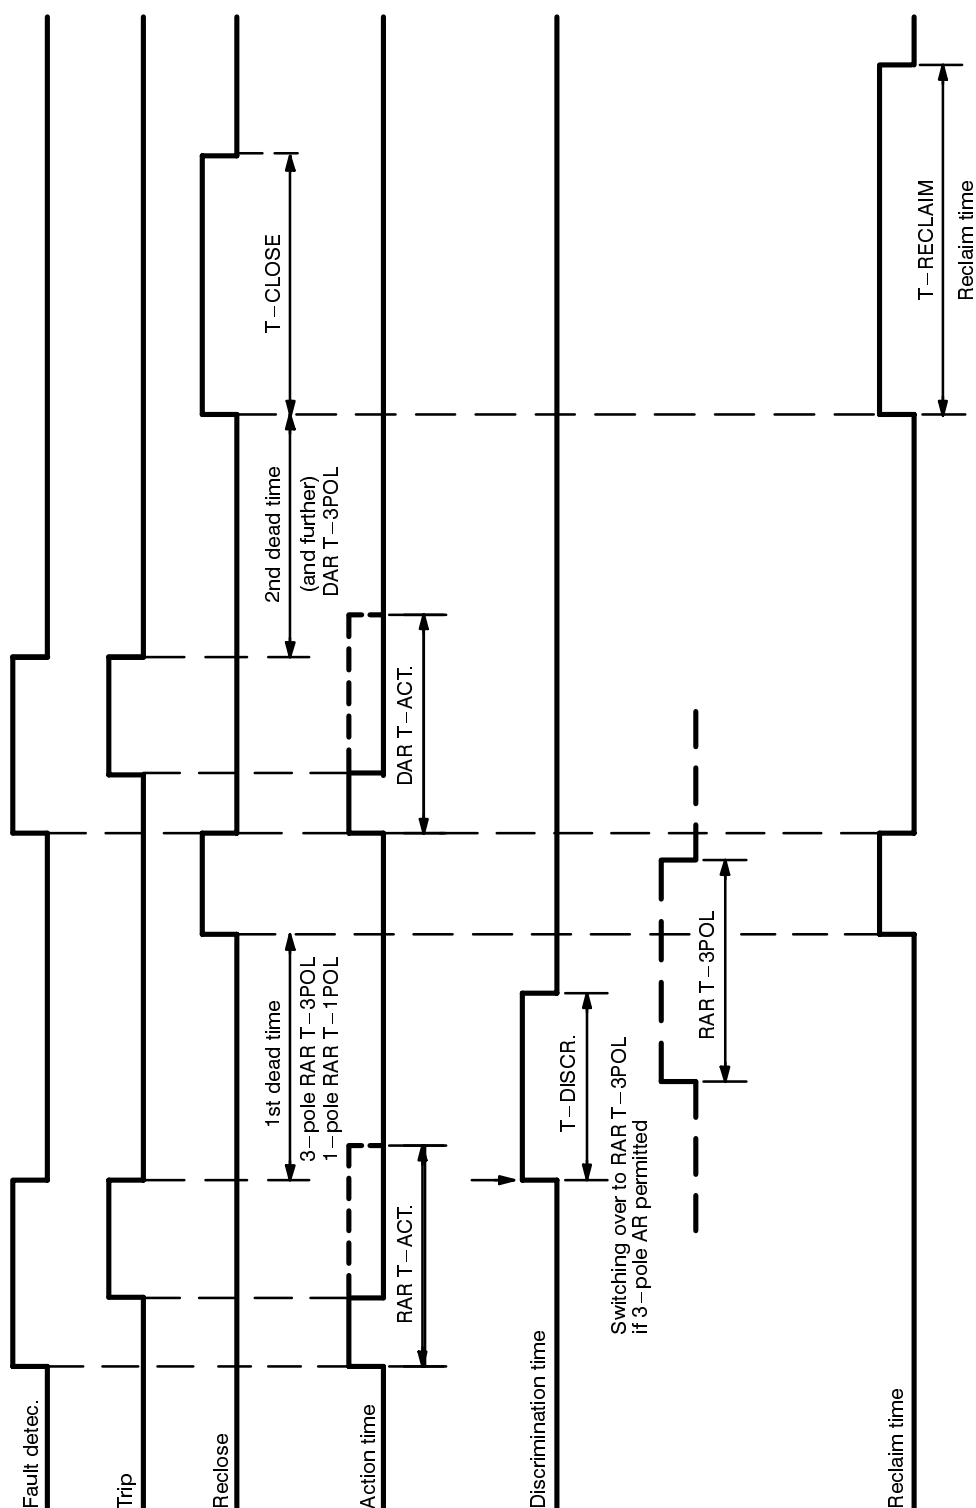

Figure 4.2 Diagram of an auto-reclosure sequence: RAR cycle followed by a DAR cycle
Experience has shown that approximately 85 % of short circuits are caused by an arc, on overhead lines, and self-extinguish after interruption by the protective device. The line can therefore be re-energized. This is carried out by the automatic reclosure (AR) function. Figure 4.2 shows an example for the time sequence of a two-shot auto-reclosure with a RAR cycle followed by a DAR cycle.